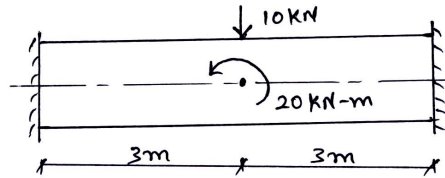

Fig.Q5(b)
b. For the beam shown in Fig.Q5(b), determine the displacement at node 2 and internal loads. Take $E = 210 \text{ GPa}$, $b = 0.2 \text{ m}$; $h = 0.4 \text{ m}$.